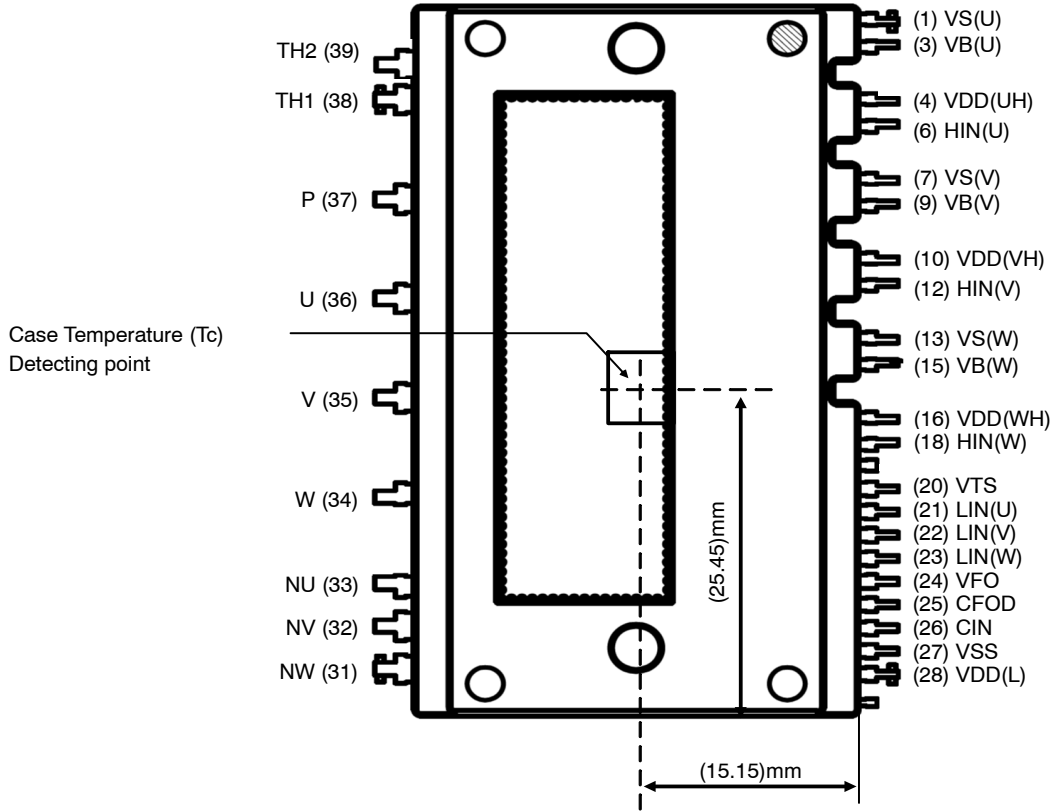

Figure 7. Case Temperature (Tc) Detecting Point
- For the measurement point of case temperature (Tc), please refer to Figure 7.